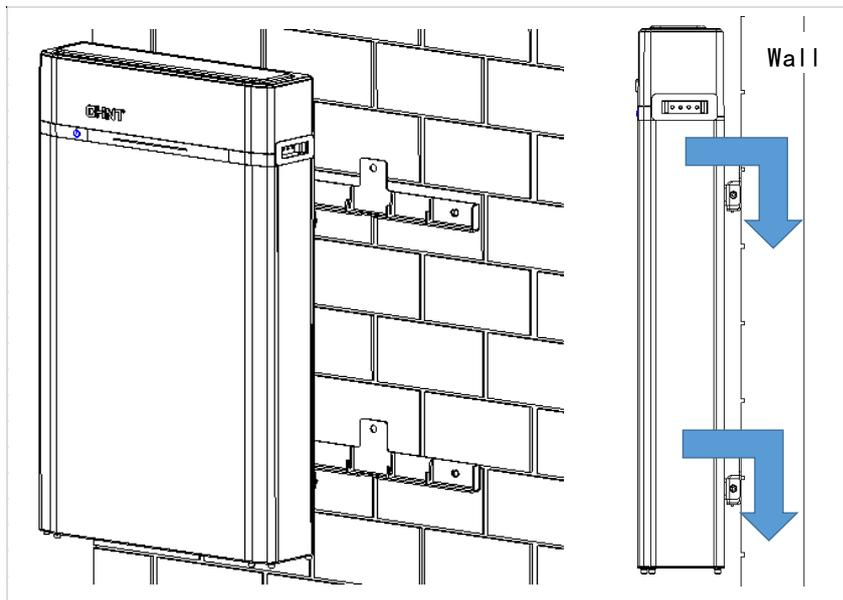

Figure 4-18
3. The battery pack (G) assembled in step 2 is clamped into the wall mounting bracket (H) fixed to the wall in step 1, as shown in Figure 4-18:
The arrows indicate the direction and order in which the battery packs are installed in Figure 4-18.